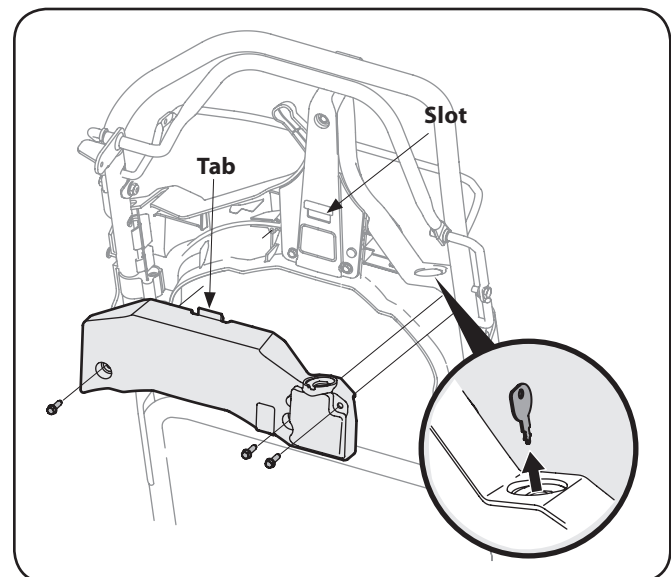

Figure 6-3
4. Carefully remove the harness assembly from the speed control housing by removing the three screws securing it to the housing. See Fig. 6-3.
8. Replace screw and washer removed earlier. Reassemble back of housing. Reattach battery harness assembly to the speed control housing, making sure to snap the tab on the harness into the slot on the housing. See Fig. 6-3. Secure with the three screws removed earlier.